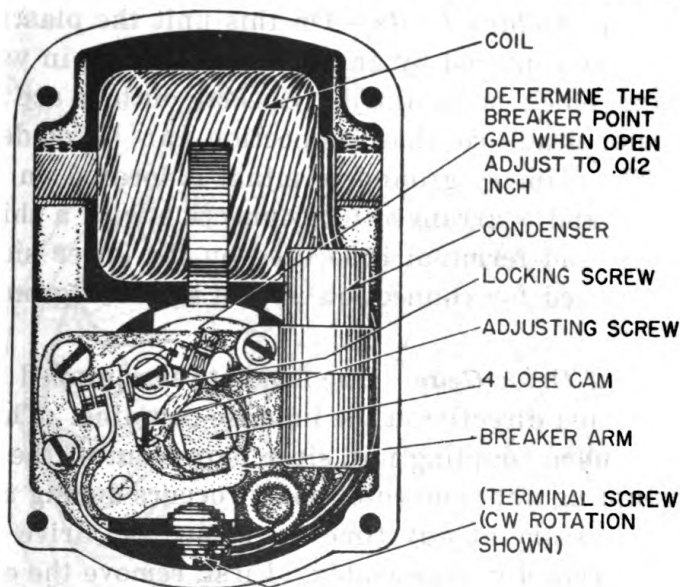

Figure 20.—Magneto Point Adjustment
*f. Service of Breaker Contact Points.*—Contact point adjustment necessitates removal of the distributor housing which has a sealed gasket joint with the metal housing. The contact points should be examined for evidence of pitting or pyramiding. A small tungsten file or fine stone may be used to resurface the points. If the points are worn or badly pitted, they should be replaced. Points should be adjusted to have a .012 inch gap at full separation. Adjustment is made by loosening the round-head locking screw at the upper end of the stationary point bracket (figure 20) then turning the eccentric head adjusting screw until the proper gap is obtained, and locking the assembly by tightening the round head screw.